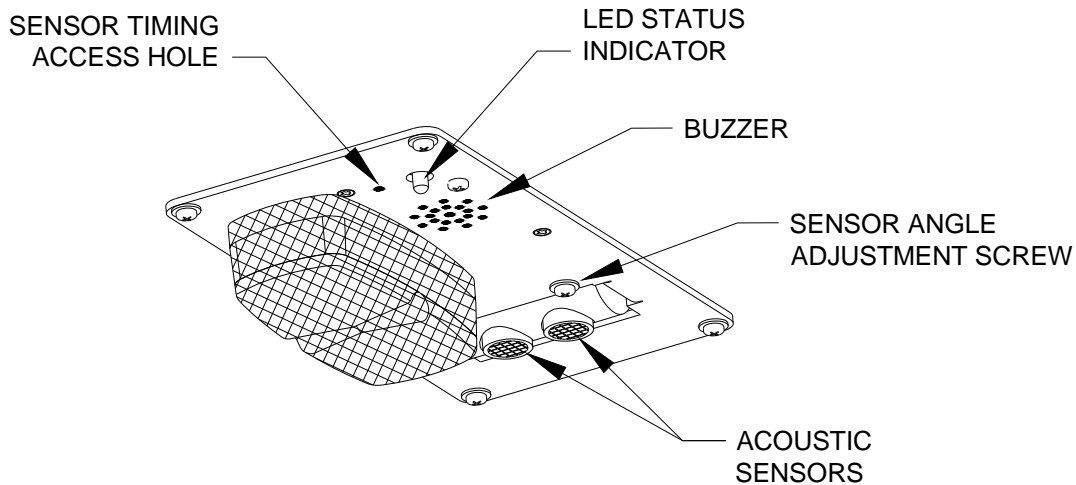

FIGURE 5: TWS MODULE DETAIL
3. Refer to **FIGURE 5**. Turn sensor angle adjustment screw clockwise to move direction of beam away from center aisle and towards doorway. Stop adjustment when LED ceases to flash.
2. Refer to **FIGURE 5**. Note the sensor timing access hole. This hole provides access to a plunger actuated switch that sets the sensor timing. Insert a 1/16-inch diameter wire-like object into the access hole and press the plunger inward. The LED will flash momentarily while the module establishes the distance and then remain on steady. Release the plunger when the LED ceases to flash.